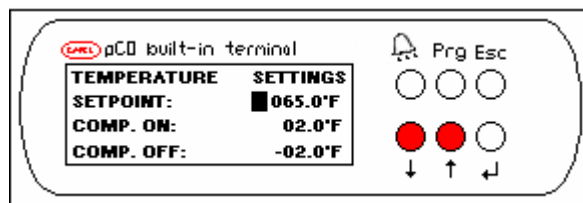

FIGURE 3
2. Now press the **ENTER** button again so that the cursor is blinking next to the setpoint temperature. Use the **UP** and **DOWN** arrows to change the setpoint to the new value. See figure 3.